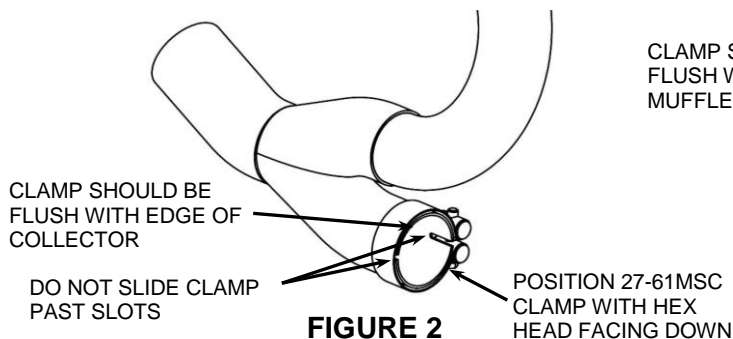

FIGURE 2
10. Position the supplied #27-61 MSC clamp with hex head facing the direction shown in **FIGURE 2** over the inlet of the collector on the rear headpipe.
14. Secure the muffler assembly to the exhaust mount bracket using the (2) supplied 5/16"-18 bolts but **DO NOT TIGHTEN**.
15. Make sure the muffler assembly, front headpipe, and rear headpipe are aligned properly and tighten in the following order; headpipe flanges to the cylinders (slowly tightening opposing nuts), front headpipe clamp, muffler clamp, and finally the muffler assembly to the exhaust mount. (NOTE: The muffler clamp and headpipe clamp should be flush with the end of the inlets when tightened. See **FIGURE 2 & 3**. If the clamps are slid past the slots on the inlets the clamps will not tighten properly).